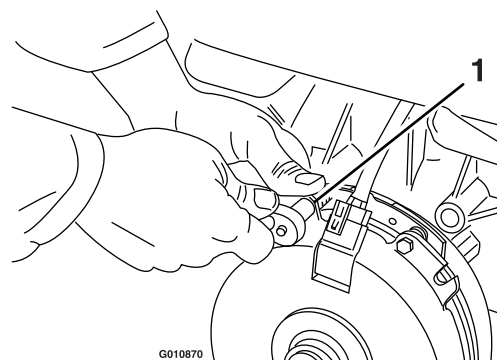

Figure 66
- A. Loosen both brake-mounting bolts 1/2 to 1 full turn as shown in Figure 66.